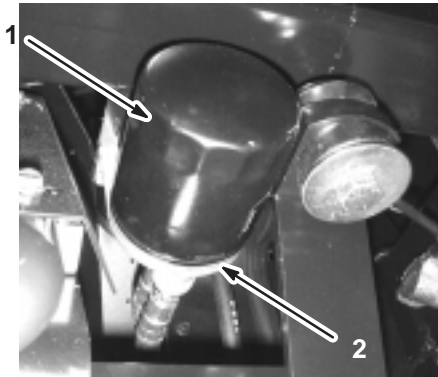

Figure 34
2. Remove the old filter (Fig. 34).
3. Wipe the filter adapter gasket surface (Fig. 34).
4. Apply a thin coat of new oil to the rubber gasket on the replacement filter (Fig. 34).
5. Install the replacement oil filter to the filter adapter. Turn the oil filter clockwise until the rubber gasket contacts the filter adapter, then tighten the filter an additional 1/2 turn (Fig. 34).